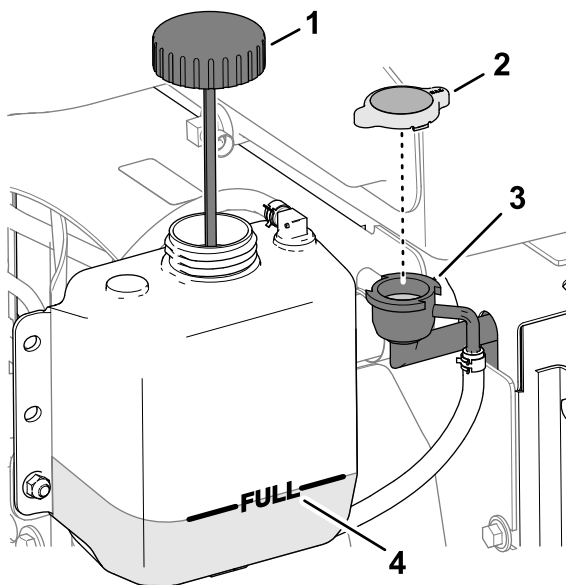

Figure 98
3. Carefully remove the radiator cap (Figure 98).
Note: The coolant level is correct if it is to the top of the filler neck of the radiator (Figure 98).